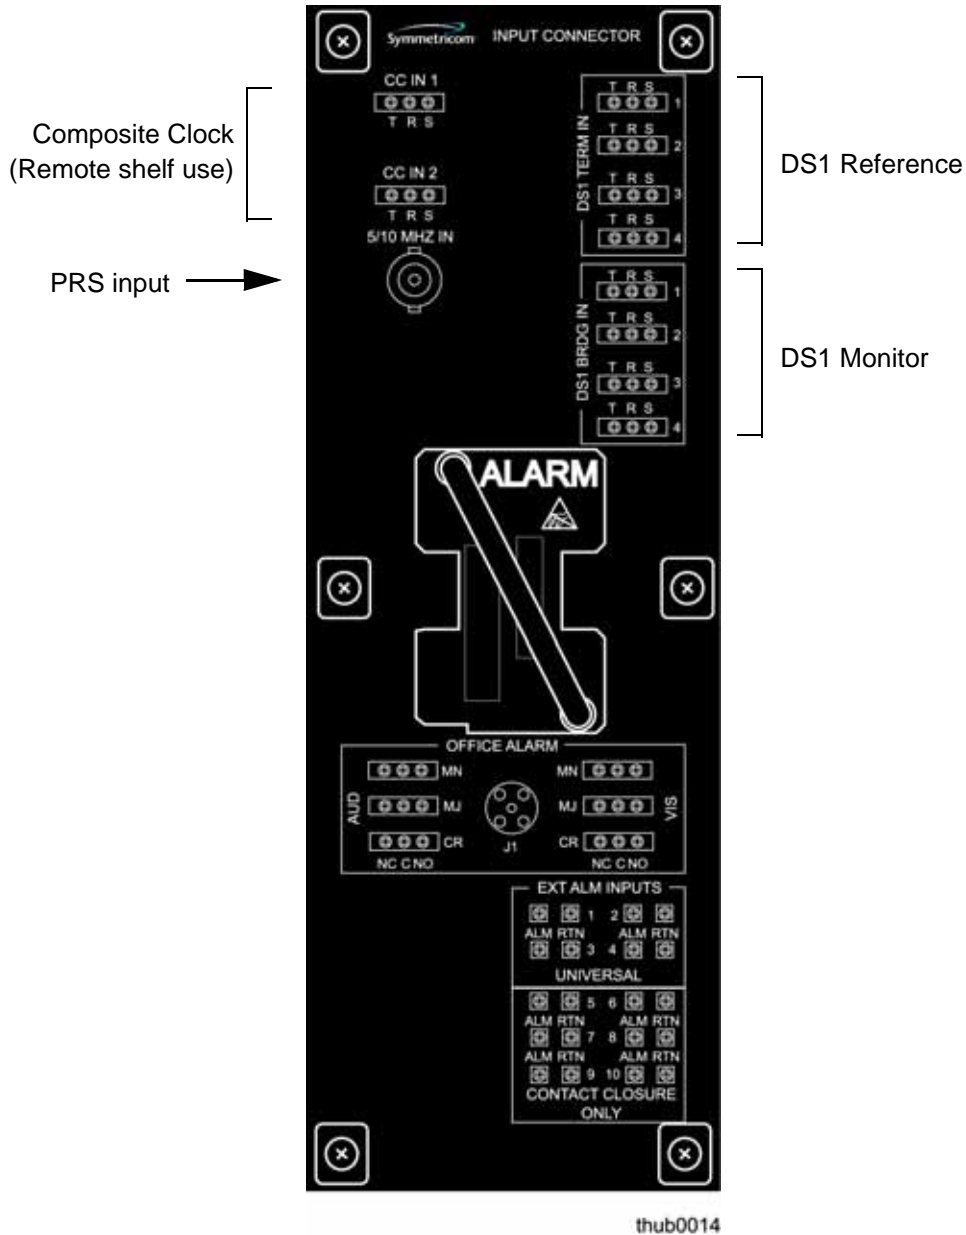

Figure 3-17. Input/Alarm Connector Module Connections
You make all timing input connections on the Input/Alarm Connector module (Figure 3-17). Install the module as described in Installing the Input/Alarm Connector Module, on page 104.
The Office alarms provide normally-open, center, and normally-closed contact pins. You connect the office alarms to the OFFICE ALARM critical (CR), major (MJ), and minor (MN) wire-wrap pins on the Input/Alarm Connector module. See Figure 3-17 for the location of the pins.
Connect the external alarm inputs (customer-configured alarm inputs) to RACK ALM INPUTS wire-wrap pins 1 through 10 on the Input/Alarm Connector module. See Figure 3-17 for the location of the pins.